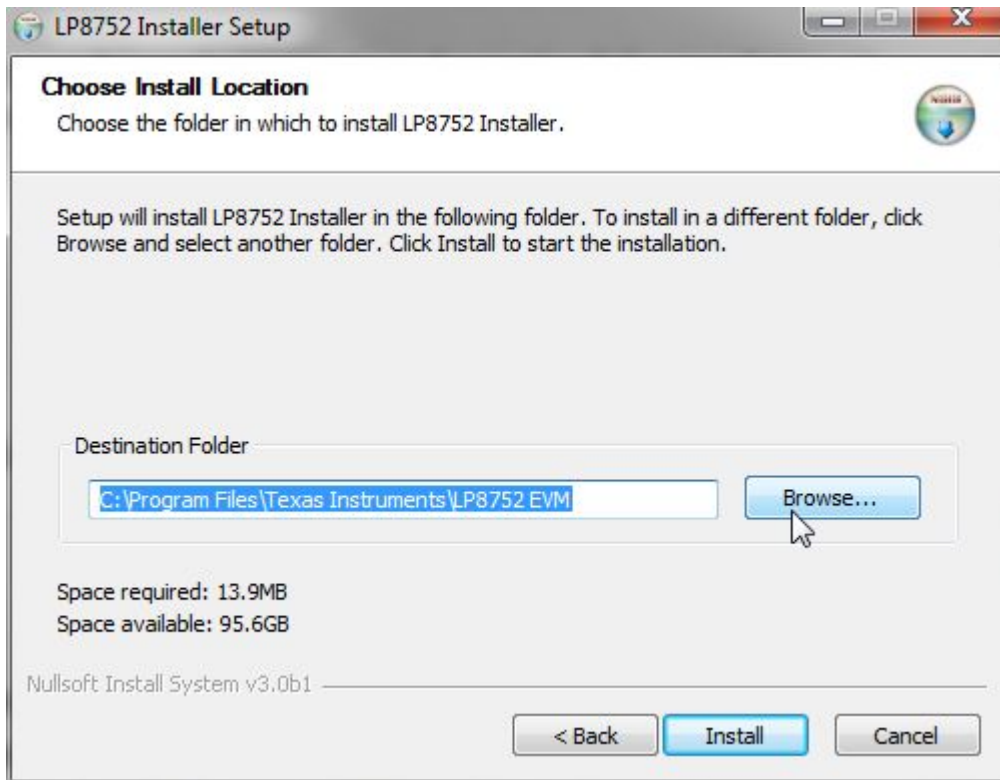

Figure 4. LP8752 Destination Folder
4. Installer prompts to select Destination Folder (see Figure 4).